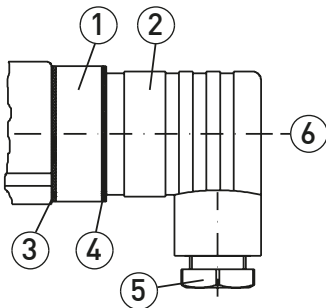
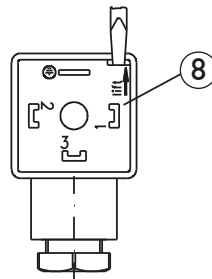

Fig. 1
Fig. 2
- Furthermore, ensure that all gaskets ③, ④ and ⑨ at the plug connector are inserted correctly.
- ↪ Loosen the central screw ⑥ M3x35 and disconnect the cable socket ② from the plug connector ① (→ Fig. 1).
- ↪ Remove the central screw ⑥ from the cable socket ②.
- ↪ Open the core ⑧ of the cable socket with a screwdriver or similar tool (→ Fig. 2).